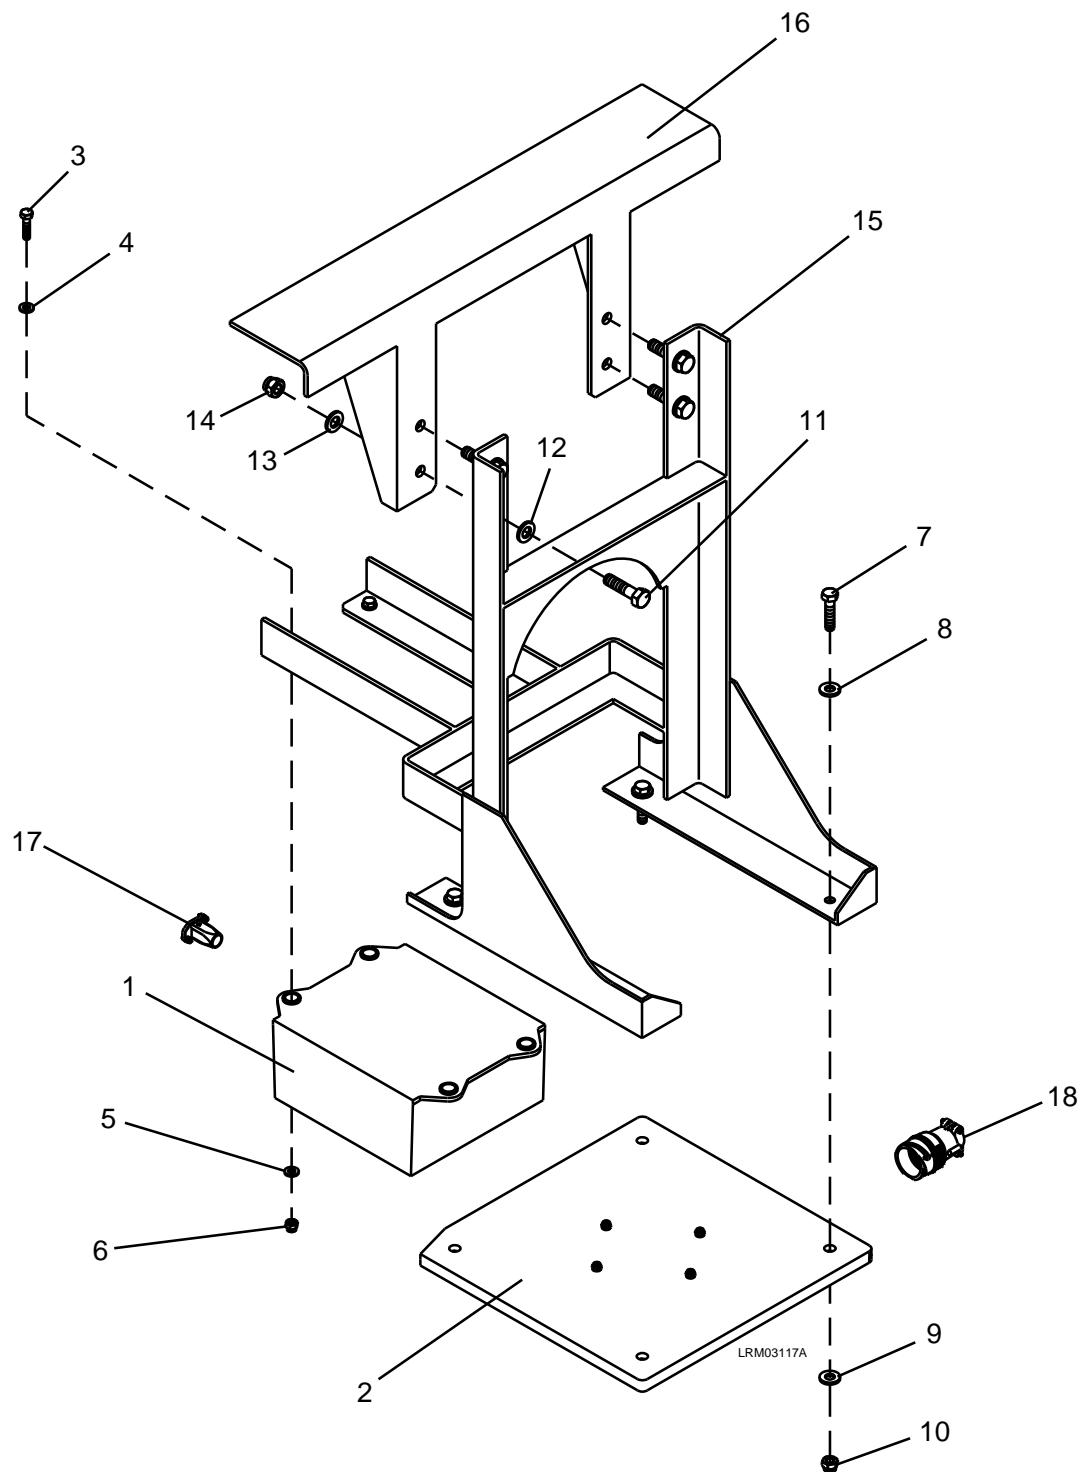

Figure 7-103: TWC Antenna
2. Remove the four M6 ESNA nuts (6), M6 plain washers (5), M6 x 25 bolts (3) and M6 plain washers (4). See Figure 7-103.
3. Carefully remove the TWC Antenna (1).